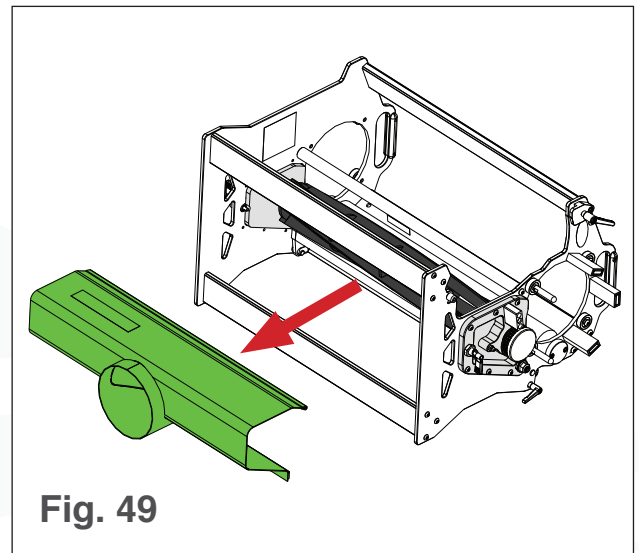

Fig. 49
4. Push the shroud from the top down, then pull it off the T4 (see Fig. 49).